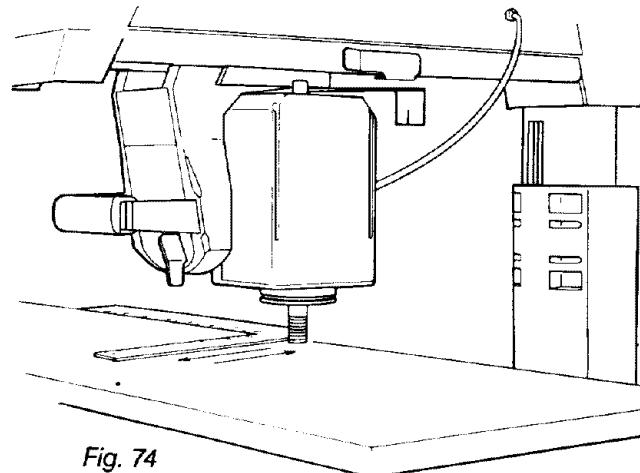

Fig. 74
7. Lay a framing square on the *front table* with the long edge along the back of the *table* and the short edge alongside the *motor arbor*. (Figure 74)
8. Move the framing square toward the *motor arbor* until the arbor and square touch each other. (Figure 74)
If the *motor arbor* moves away from the square or tries to "walk" on top of it, go to step 11. (Figure 74)